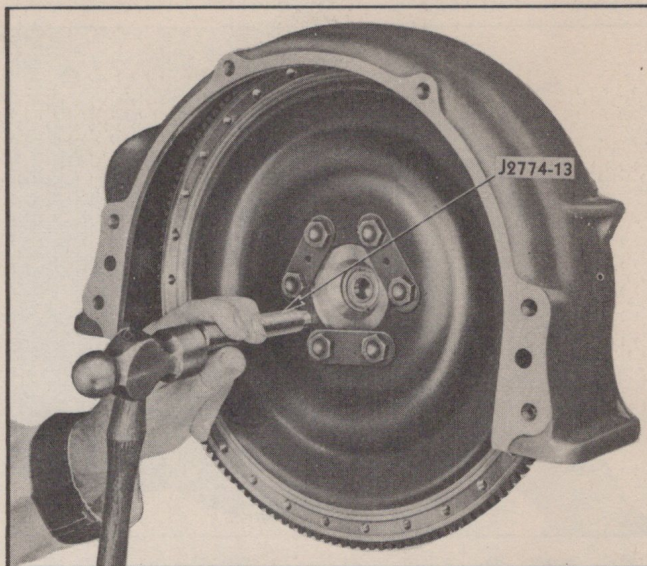

Fig. 232—Installing Oversize Dowel
9. Install dowel, using tool J-2774-13 (Fig. 232).